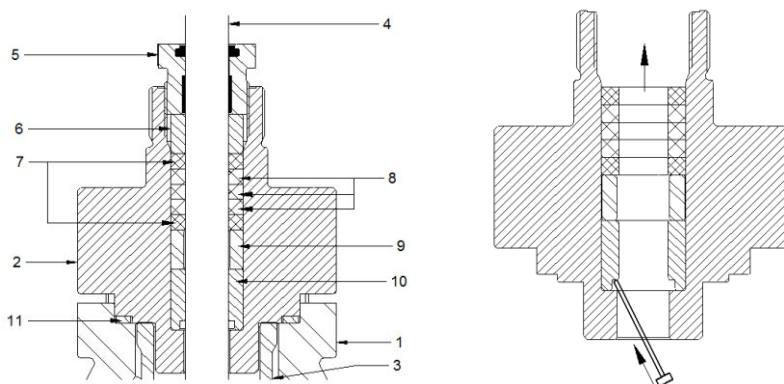

Fig.18
(Reference Figure 18)
- Remove the gland nut (5), take out gland bush (6) from bonnet bore. Remove Scrapper ring (14) from gland nut and discard. Ensure that the gland bush is clean and undamaged otherwise replace with new one. The use of silicone grease on internal surface of gland bush is recommended.
- Clean the gland cavity bore and fit new gland components in the order as shown. Note that the guide bush must be fitted with the edge having groove downwards. When fitting the Graphite rings they should be inserted with Top & Bottom braided & middle all moulded rings as indicated in figure 18, one at a time to ease the assembly process.
- Apply recommended grease to all spindle OD (4), Gland Bush ID(6), spacer ID (9) before assembly